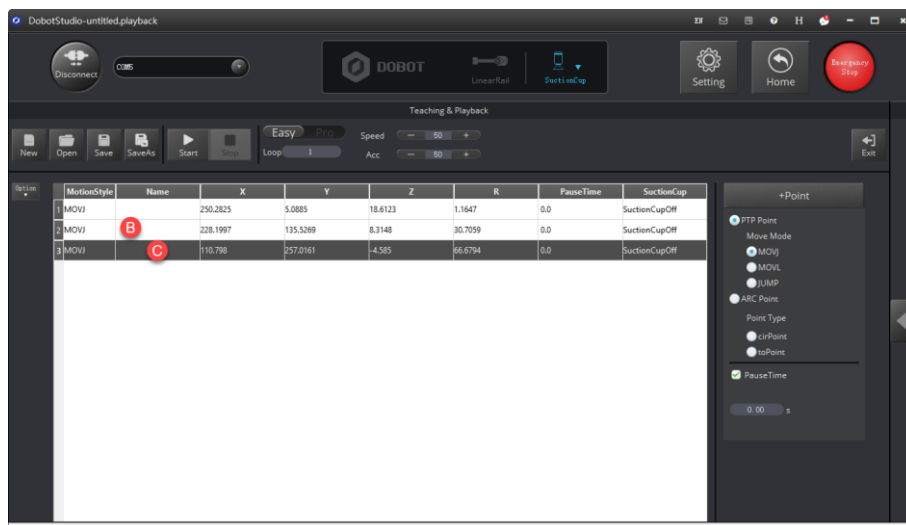

Figure 2.23 The Cartesian coordinates of points B and C
4. Move the robotic arm to other two locations such as points B and C by referring to the method of creating point A above, as shown in Figure 2.23. The robotic arm will save the Cartesian coordinates corresponding to these two points.